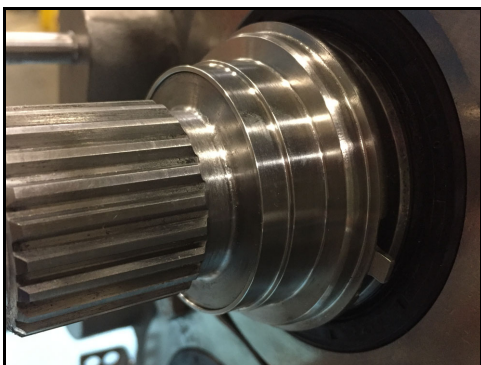

Figure 125 - Adjusting ring installed
19. Figure 125 shows the adjusting ring installed.